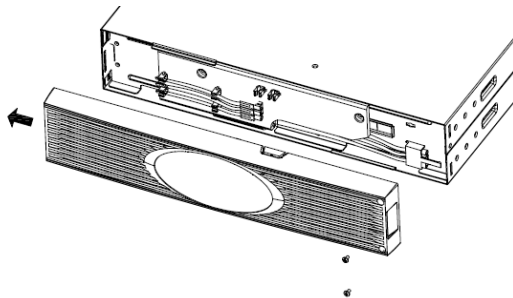

Figure 18: Removing the front cover of the battery module
1. Remove the front cover of each individual battery module (see Figure 18). To remove the cover, unscrew and remove the two screws on the right side of the cover. Grasp the cover on two sides, slide it to the left and remove it from the housing.